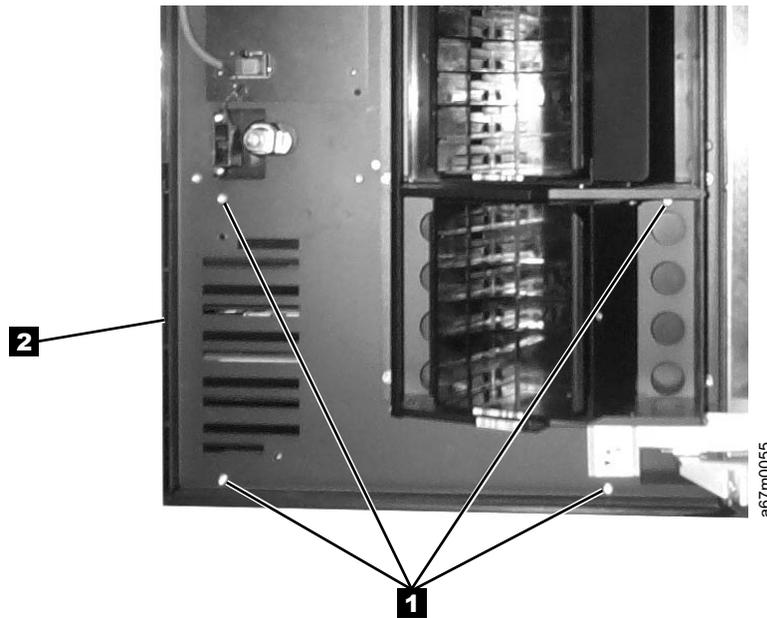

Figure 7-48. Plastic Lower Front Door Panel Removal and Replacement
See Figure 7-48 for locations of components in the following procedure.
4. The Plastic Lower Front Door Panel is attached to the door frame with four screws **1**. Remove these screws shown in Figure 7-48.